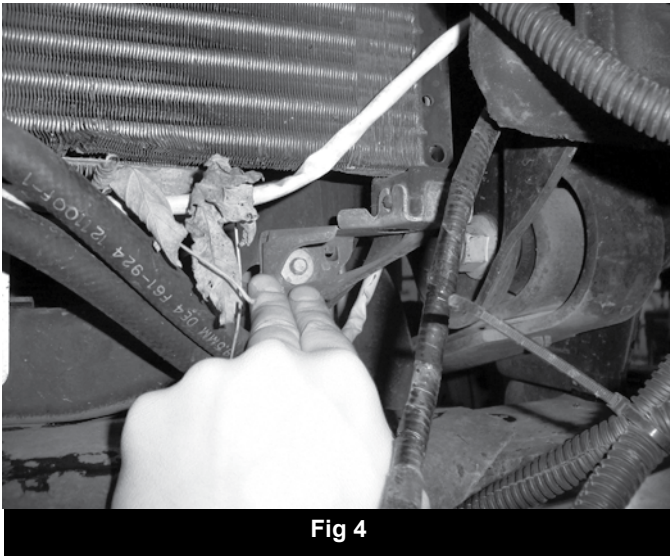
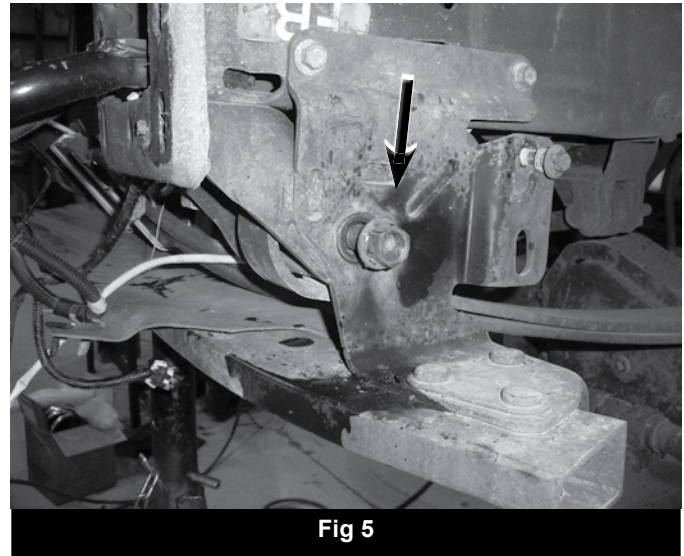

Fig 4
Fig 5
11. Loosen but do not remove all four leaf spring mounting bolts. On the front, the A/C condenser brackets will need to be removed to gain access to the bolt (Fig 4). Remove the brackets from the core support and save along with the mounting bolts. Note: The factory uses very strong Loctite on the leaf spring bolts. In most cases heat will be needed to loosen the nuts (Fig 5). Take extra care when heating the nuts and keep a fire extinguisher near by.